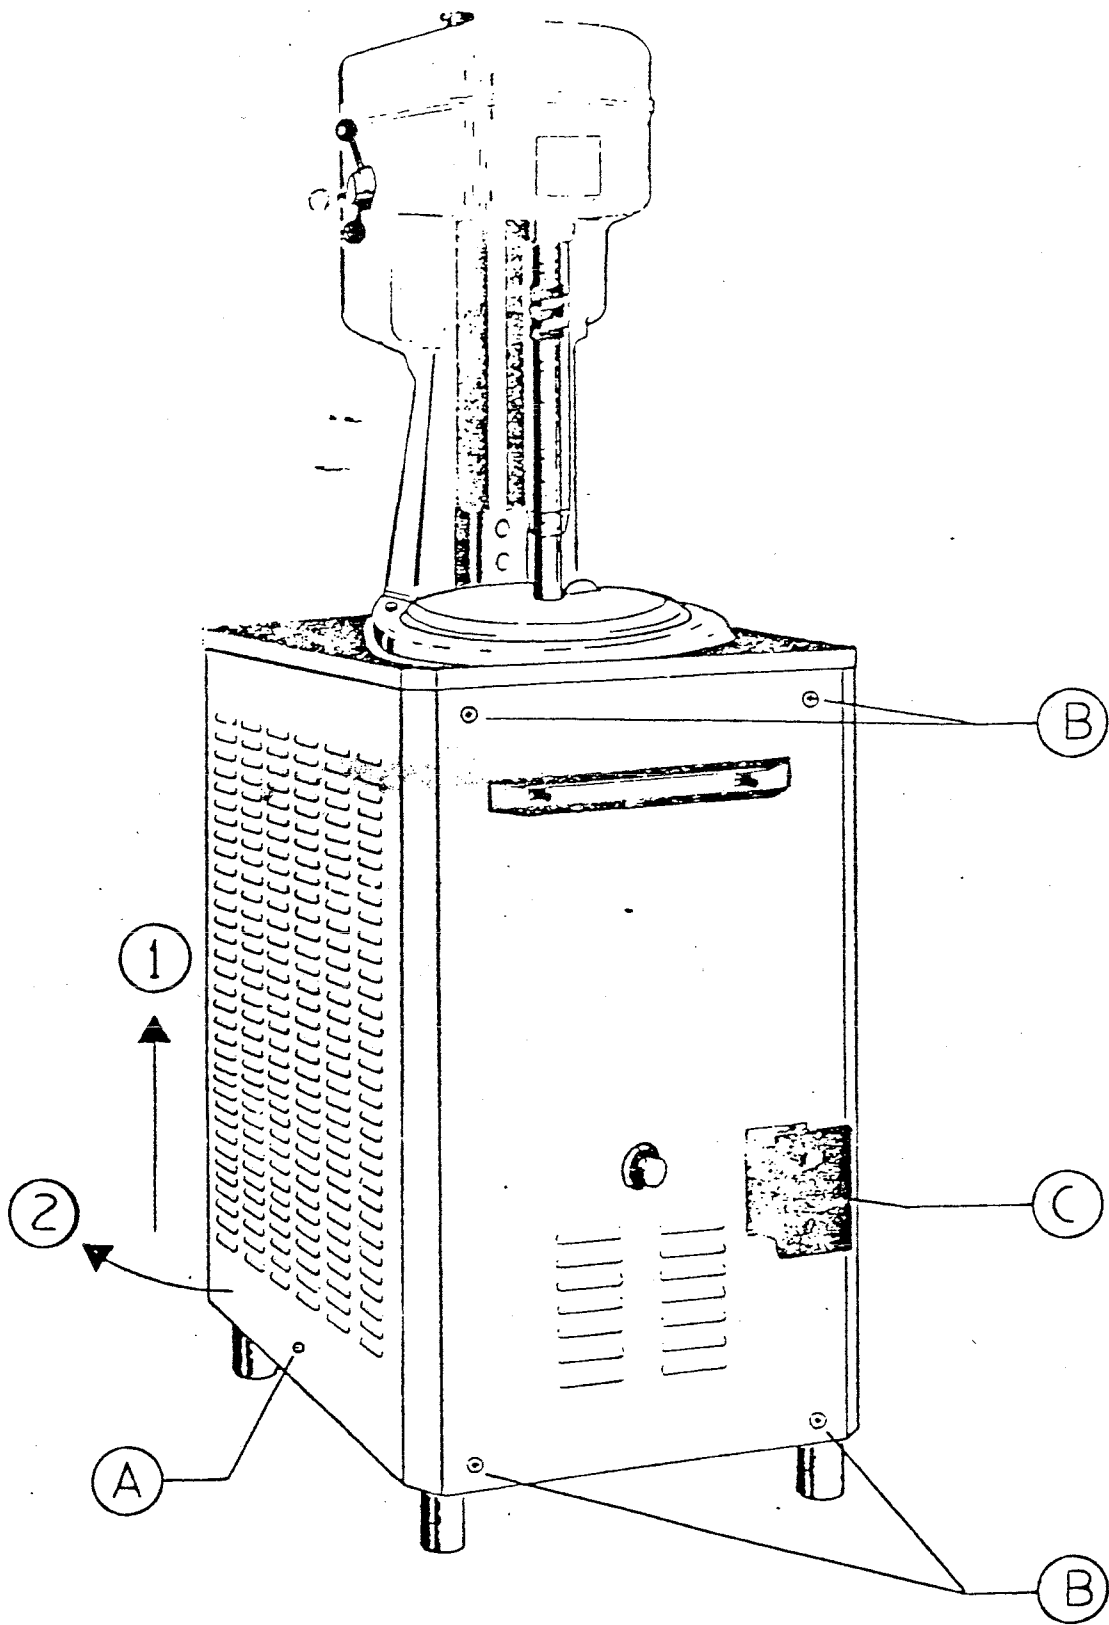
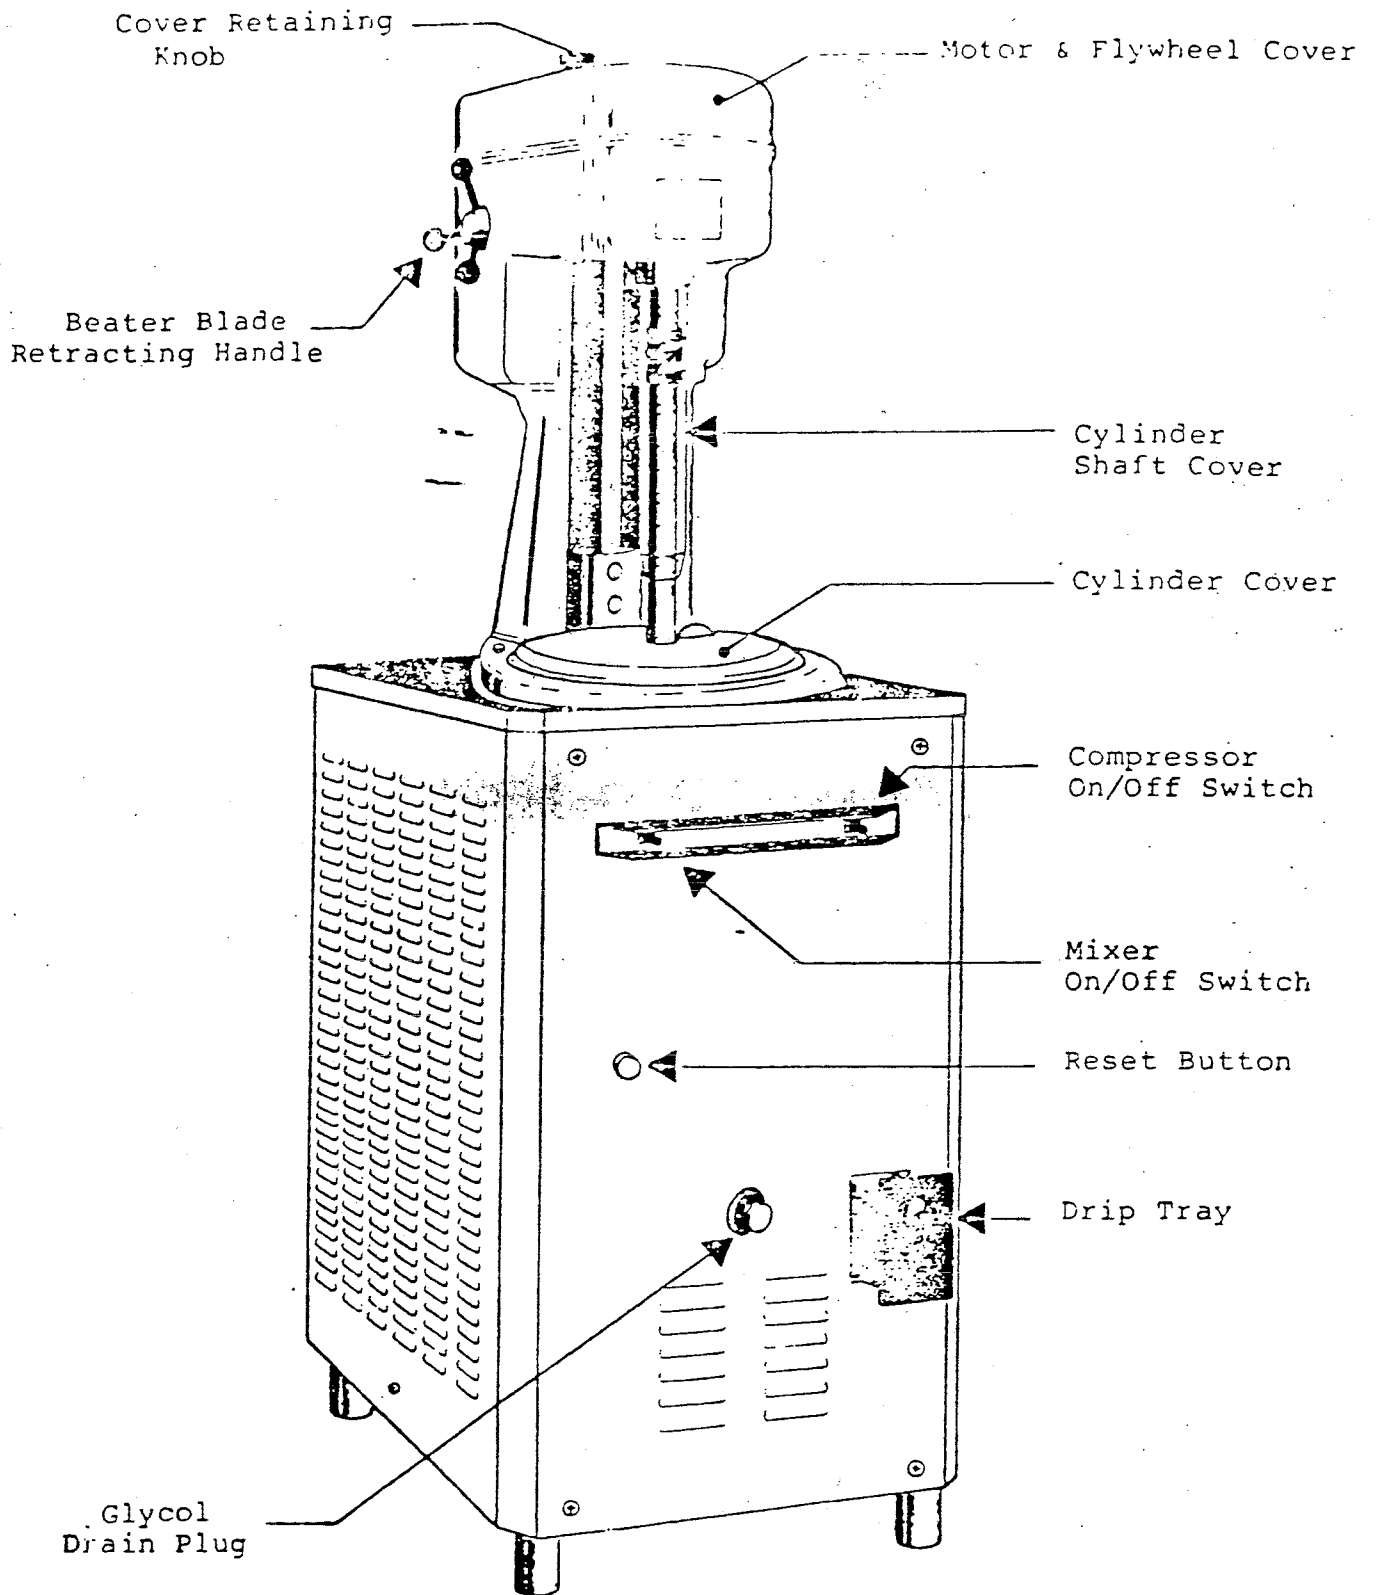

FIGURE 1
FIGURE 2
4. Remove side panels. To remove the side panels, you must first remove the retaining screws (see Part A Figure 1). After having removed the retaining screws, lift the panels upward, then outward and down to remove (see Fig. 1 Steps 1 & 2).
5. Unfasten retaining bolts and nuts to free machine from the skid. The unit is fastened to the skid with four (4) bolts located at each corner of the lower frame.
Coldelite freezers are provided with protection on the beater motor. Should the line voltage drop or if there is a short circuit, the overload protector will automatically disconnect the starter and the machine will stop immediately so that no permanent damage can be caused to the motor. To start the freezer again, push the RESET button (see Fig. 2) located on the front panel of the machine. The compressor is also internally protected. If the Klixon protector trips due to an overload, the klixon automatically resets and the compressor will be re-activated.
Connection A 4x4 junction box, located in the lower left hand corner of the front panel, is provided for hook-up (see Fig. 3). To gain access to the junction box, the front panel must first be removed. To remove the front panel, first remove drip tray (see Fig. 2), then remove the four (4) panel retaining screws (see Fig. 1 Part No.B), pull bottom of the panel outward and downward. The junction box will now be visible and connection can be completed.
When installing a "3 phase" machine, the beater motor must be checked for proper rotation. Rotation MUST be in a clockwise direction as indicated by the "Arrows" on the beater flywheel. To check rotation, remove the motor and flywheel cover (Ref. Fig. 2) by first removing the cover retaining knob and then lifting cover off. Turn "mixer" on/off switch to the "on" position. Beater motor is now on and rotation can be checked.